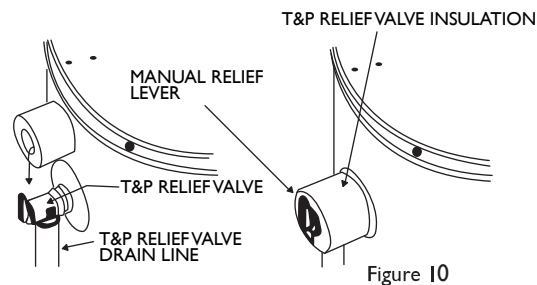

Figure 10
Manually operate the temperature and pressure relief valve at least once a year (Figure 10). To prevent water damage, discharge line must terminate at an adequate drain. (Figure 4).
3. Spread this slit open and slip it over the T&P Relief Valve (See Figure 10). Apply gentle pressure to the insulation to ensure it is fully seated on the T&P Relief Valve. Once sealed secure the insulation with a section of tape. **IMPORTANT:** The insulation or tape should not block or cover the T&P Relief Valve drain opening. Also the insulation or tape should not block or cover the T&P Relief Valve opening. Also the insulation or tape should not block or hinder access to the T&P Relief Valve relief lever.